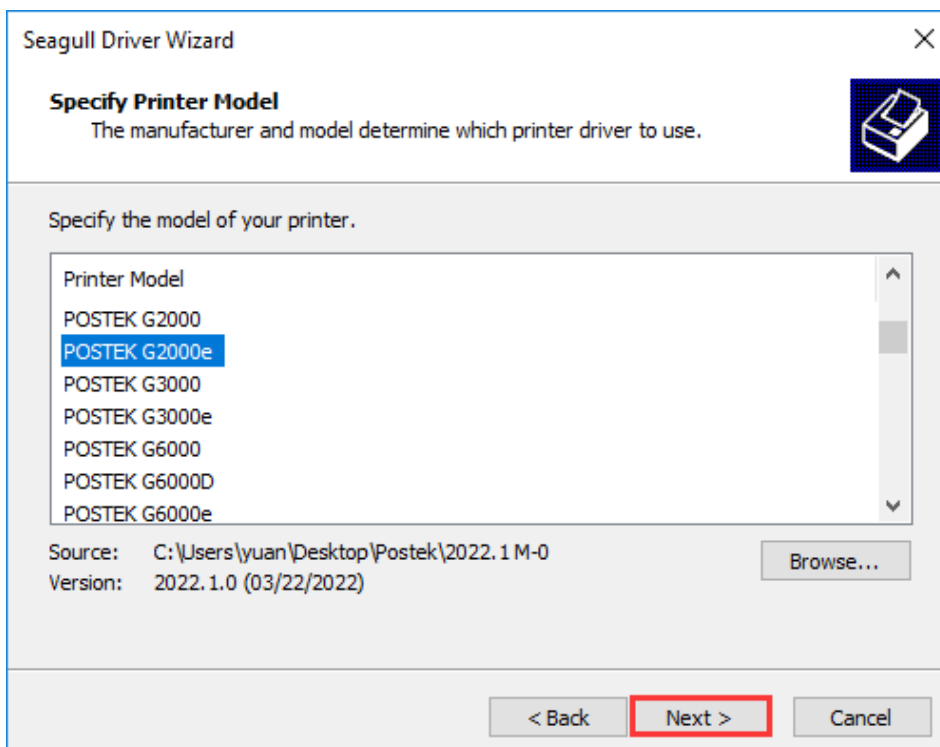

Figure 2-29 Specify Printer Model Screen
- 4. The “Specify Printer Model” screen displays, select the printer model (POSTEK G2000e for example), and click “Next”, as shown in Figure 2-29.